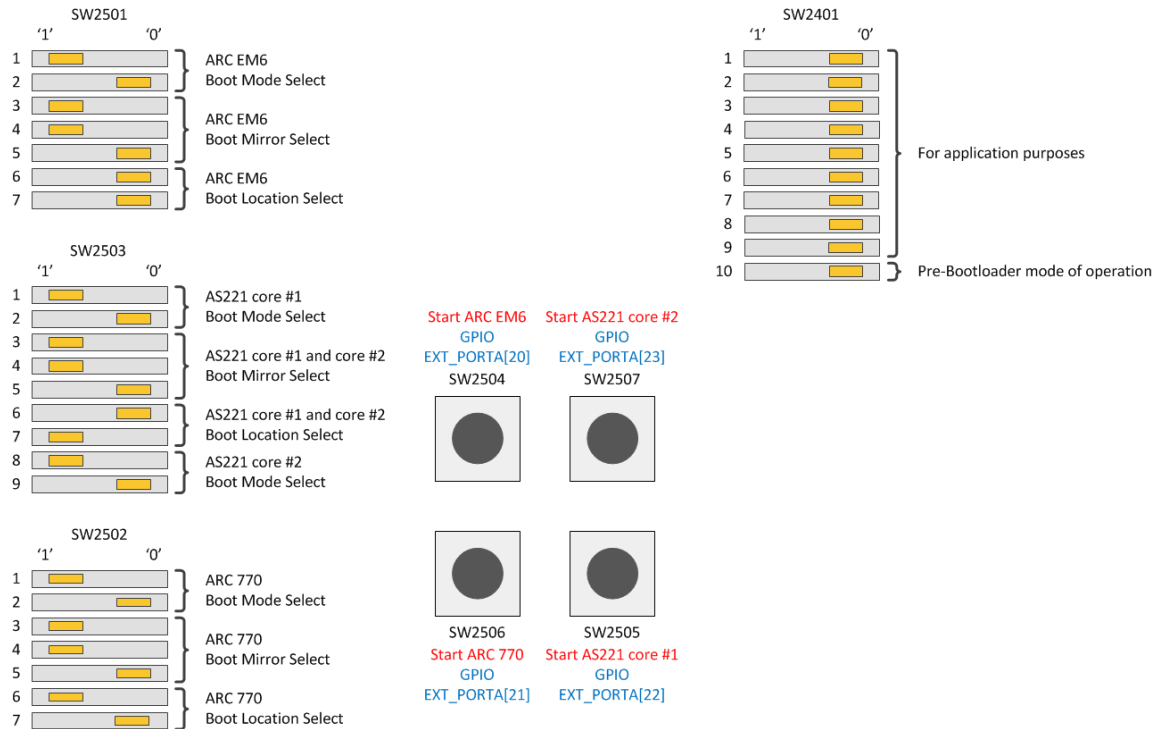

Figure 73 Default settings of the DIP switches on the ARC SDP Mainboard
3. Make sure that the CPU Card specific DIP switches on the ARC SDP Mainboard are set according to Figure 73 below.